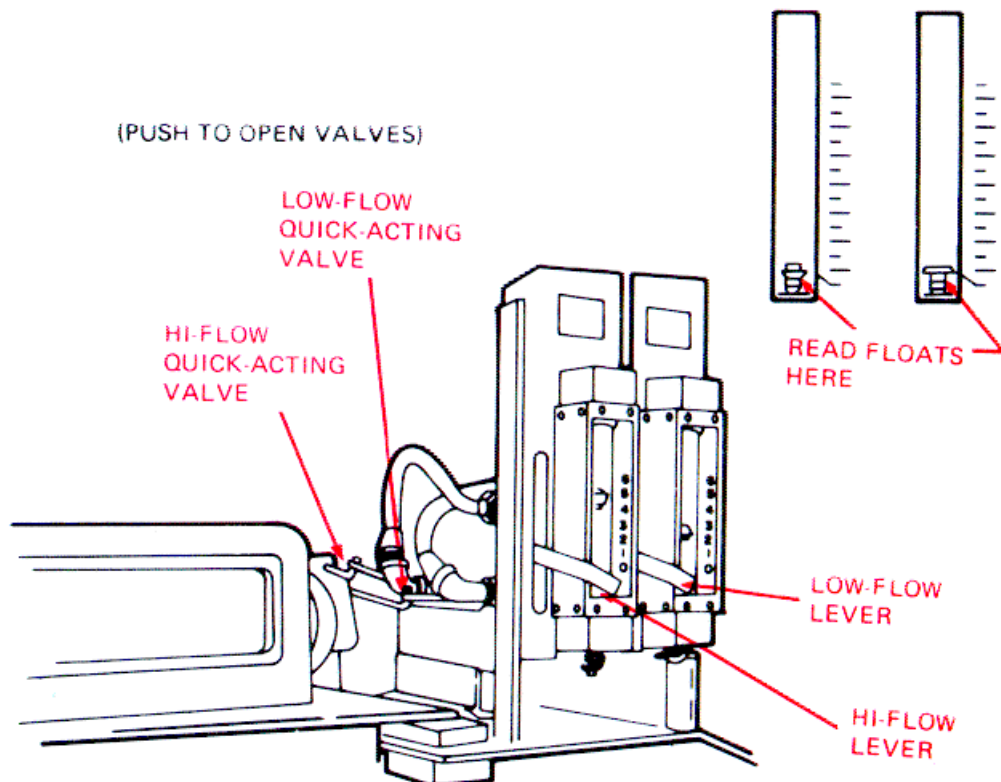

Figure 2-33. Flowmeters Adjustment.
- (4) Check to be sure the air gage still reads 14.5 to 15.5 psi
- (5) If you are using the hi-flow system, manually hold the hi-flow quick-acting valve open (fig. 2-33). Adjust the flowmeter lever until the float is at the setting you have been given. Release the valve
- (6) If you are using the low-flow system, manually hold the low-flow quick-acting valve open. Adjust the flowmeter lever until the float is at the setting you have been given. Release the valve.